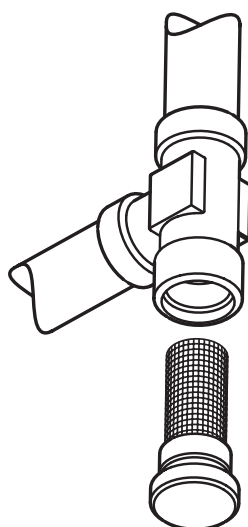

Fig. 22
4.5.2 Cleaning the "Aqua Guard Filter System" (fig. 22)